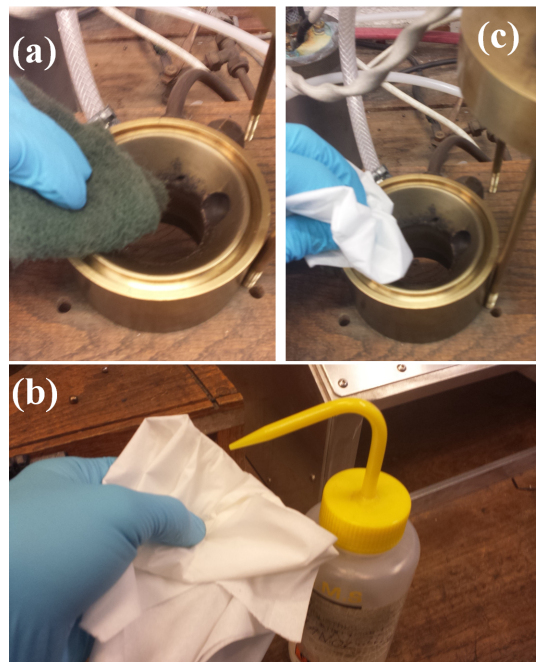

Figure 8: Cleaning the arc Furnace.
Step 4: Clean everything (except the window) by scrubbing it with scotch blight (Fig. 8(a)). Spray a bit of solvent (Ethanol/Methanol) into a tissue (Fig. 8(b)) and use it to clean the surface (Fig. 8(c)).